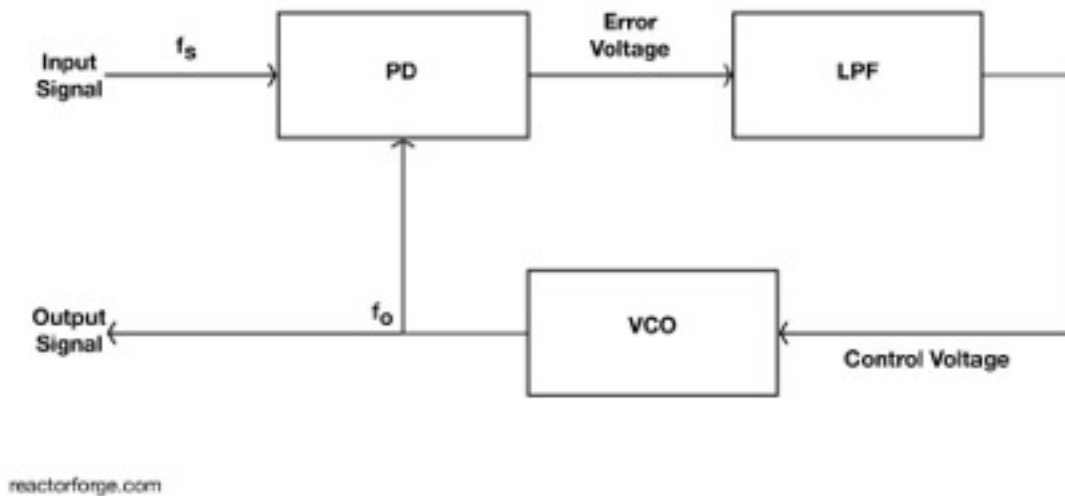

Figure 2.1 PLL Block Diagram
**PLL Overview:** A PLL is a servo system, an automatic device that uses error-sensing negative feedback to correct the performance of a mechanism. The main function of a PLL is to generate an output clock whose phase and frequency (not always 1:1) are locked to that of the input reference clock. It's operation is based around the idea of comparing the phase of two signals. The information about the error in phase or the phase difference between the two signals is then used to control the frequency of the loop. A primitive PLL system is shown below in Figure 2.1, the system consists of three basic blocks: a phase detector or comparator (PD), low-pass filter (LPF), and voltage controlled oscillator (VCO). Each component is connected forming a closed-loop feedback system.